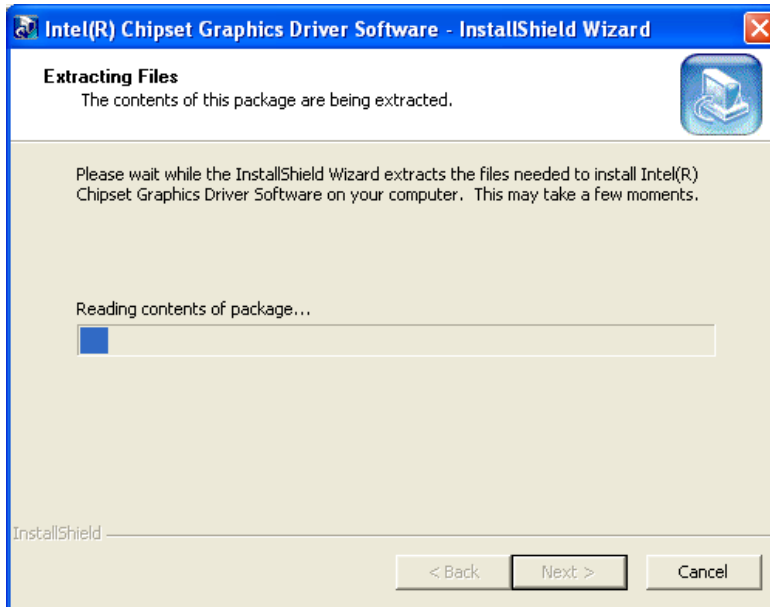

Figure 6-9: VGA Driver Setup File Extraction Screen
Step 6: The installation files are extracted as shown in **Figure 6-9**.